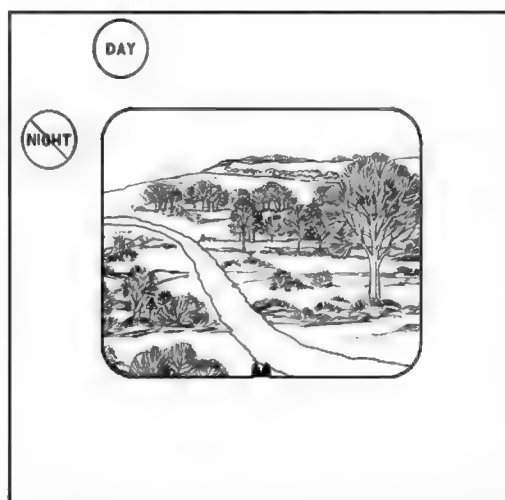

Figure D-1. Amber NVS NOT COOL indicator ON.
- a. **Indicator.** This light is an amber warning indicator (Figure D-1).